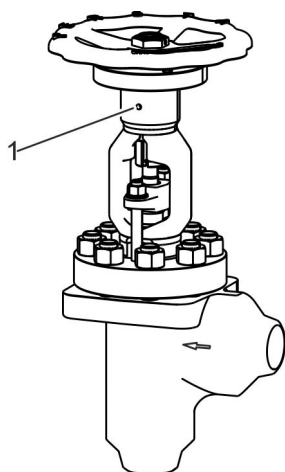

Fig. 20: Version with lubricating nipple
- Grease stem thread and bearing via lubricating nipple (Fig. 20/1).